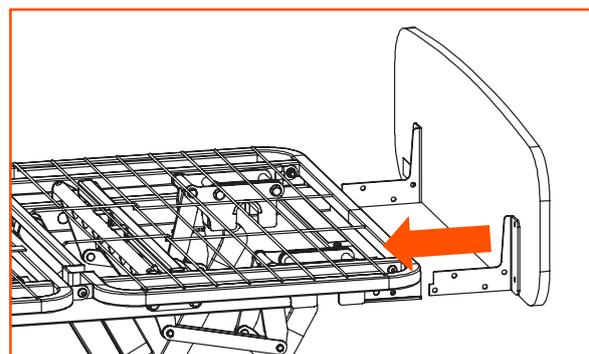

Figure 8.6
- Take the footboard and locate the mounting brackets into the channel sections on either side of the foot end of the bed; slide the footboard and brackets all the way into the channels as Figure 8.6.